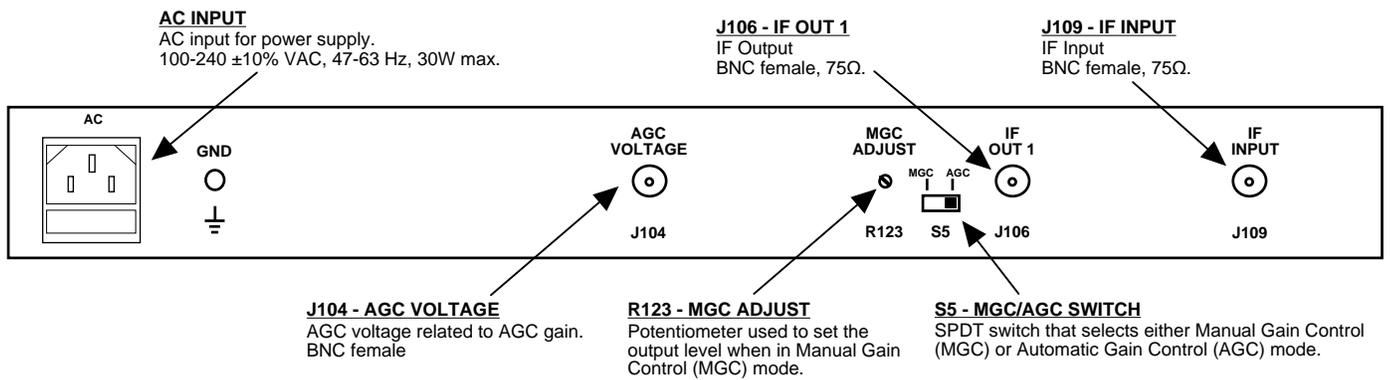

FIGURE 2.2 1200-75 Rear Panel I/Os and Control
Figure 2.2 shows the input, output, and control connectors on the rear panel.
2. Connect 100-240 \pm 10% VAC, 47 - 63 Hz to AC IN on the back panel (Figure 2.2).
4. Connect a -25 to -45 dBm, 250-750 MHz signal to IF INPUT, J109 (Figure 2.2).
5. Select Manual Gain Control (MGC) or Automatic Gain Control using switch, S5 (Figure 2.2).
6. Connect IF OUT 1 (Figure 2.2) to the desired equipment.
7. If in MGC mode adjust rear panel potentiometer R123 for the desired gain (Figure 2.2).